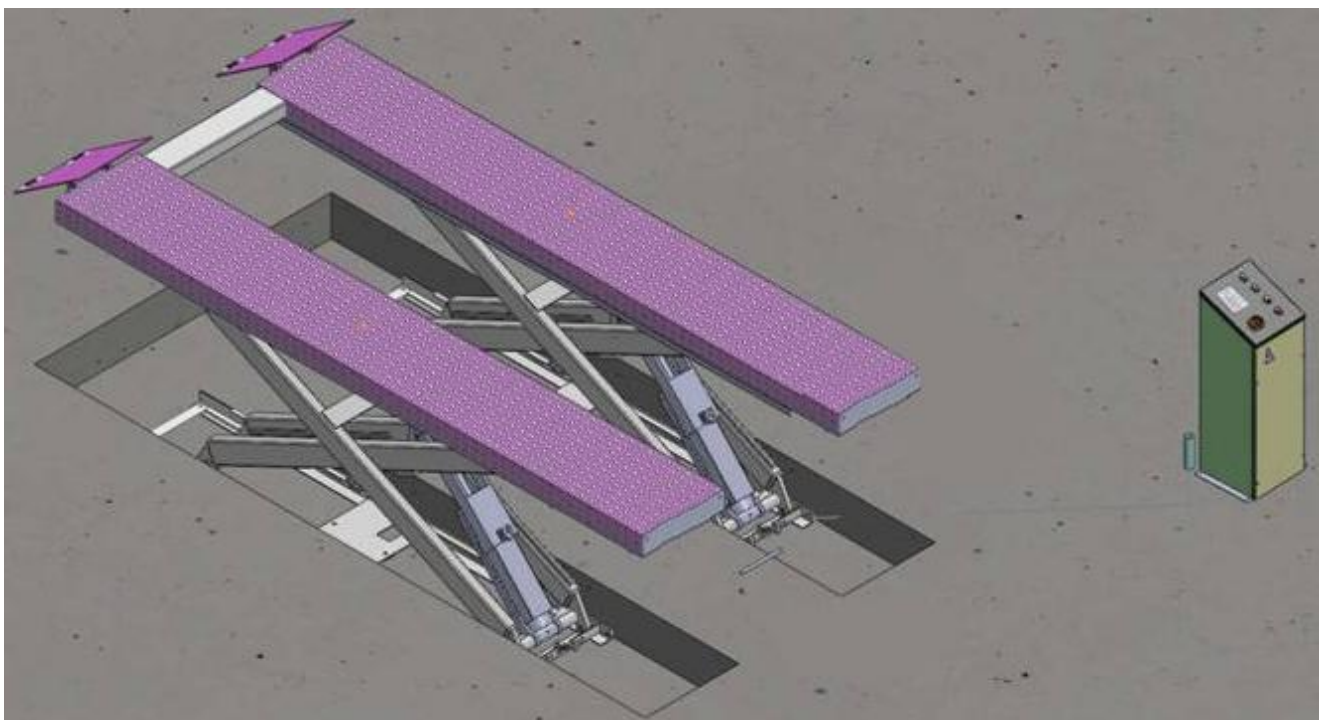

Fig. 8
2.2 Illustration of scissors lift **PX12** with flush mount installation (Fig.8).